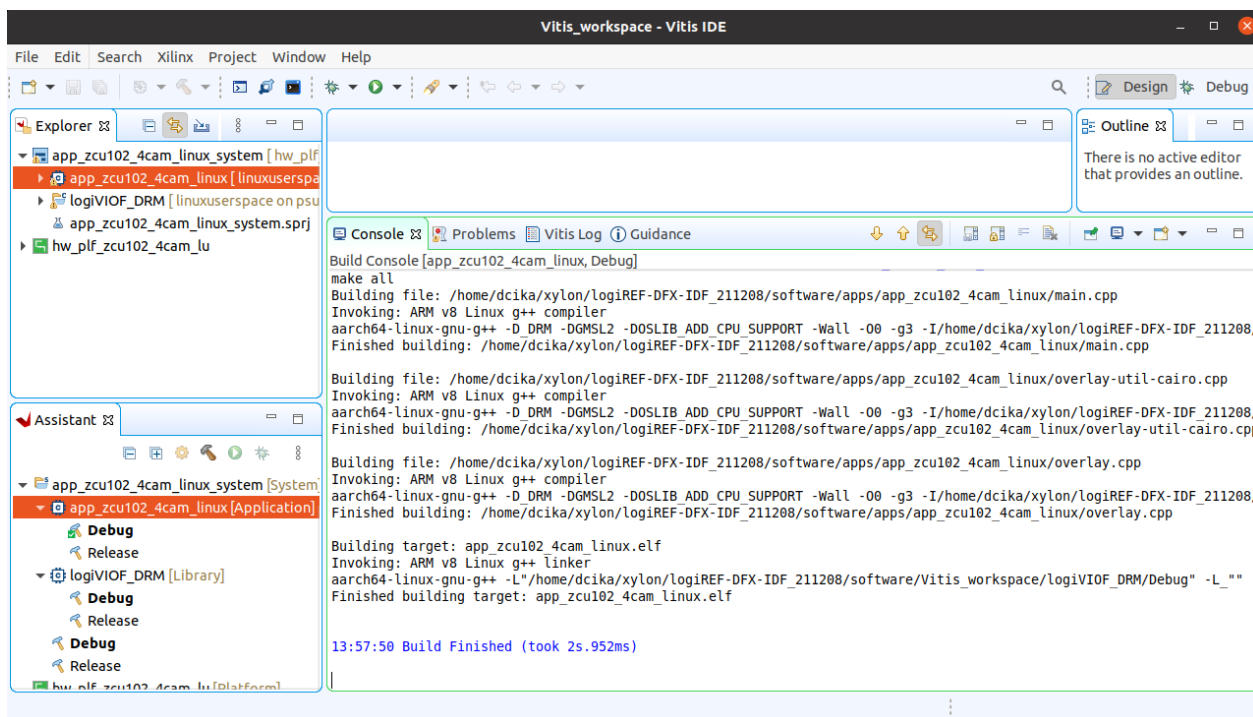

Figure 38: Vitis application development environment in action
8. Build the **app_zcu102_4cam_linux** application, check for build errors, and copy the application executable (i.e. app_zcu102_4cam_linux.elf) to the SD card along with other necessary files. **Figure 38** shows the example of successfully built application for DEBUG configuration.